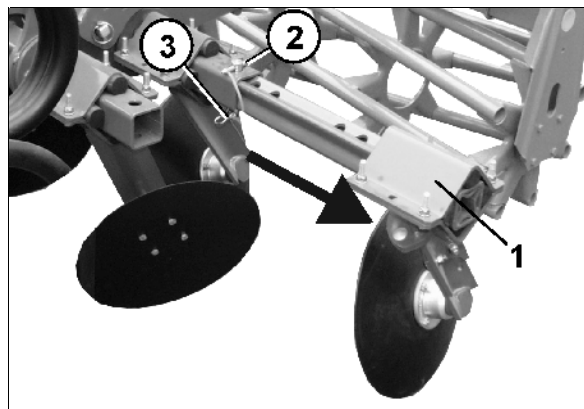

Fig. 34
Putting both side discs (Fig. 34) into operating position: :
- o Pull out the side discs (Fig. 34/1) and affix by using the securing pin (Fig. 34/2) and lynch pin (Fig. 34/3).